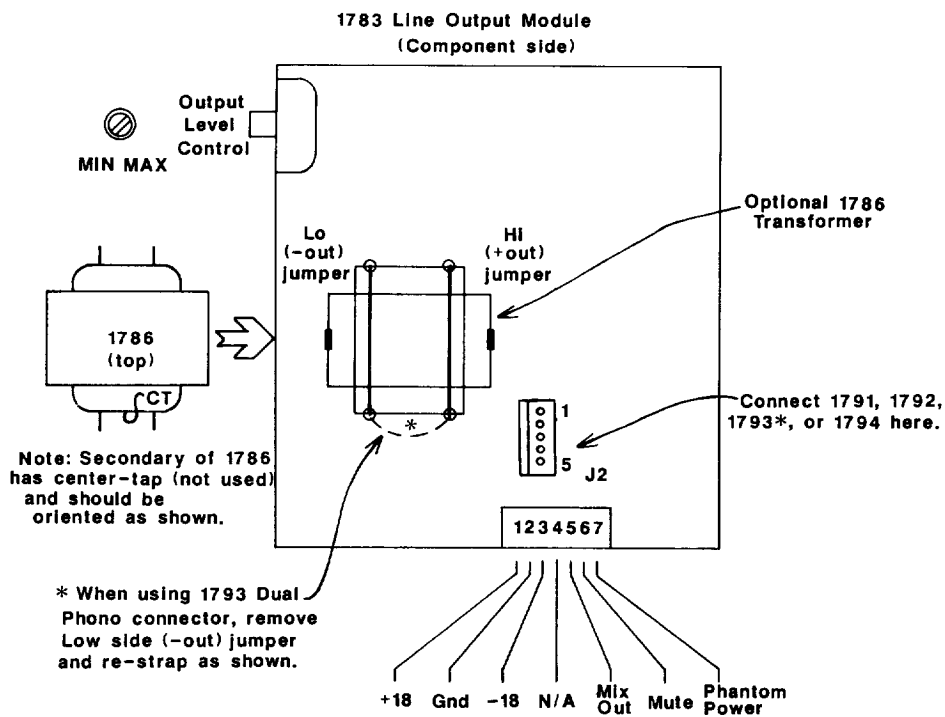

Figure 3 Optional 1783 Configuration Layout Guide
1. Remove the two wire jumpers near the lower left corner of the module. Refer to Figure 3.
2. Install the 1786 output isolation transformer in the position shown in Figure 3.